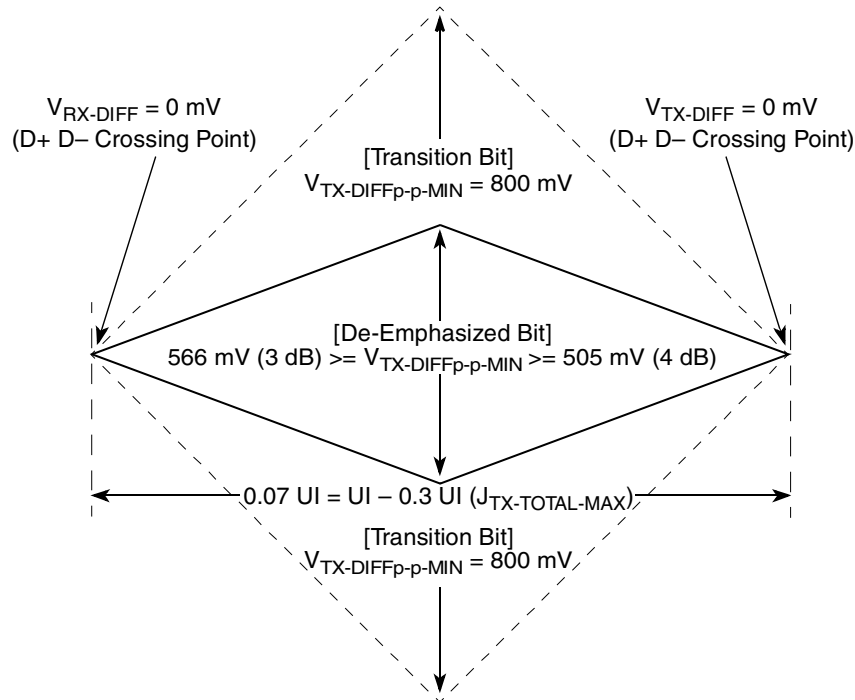
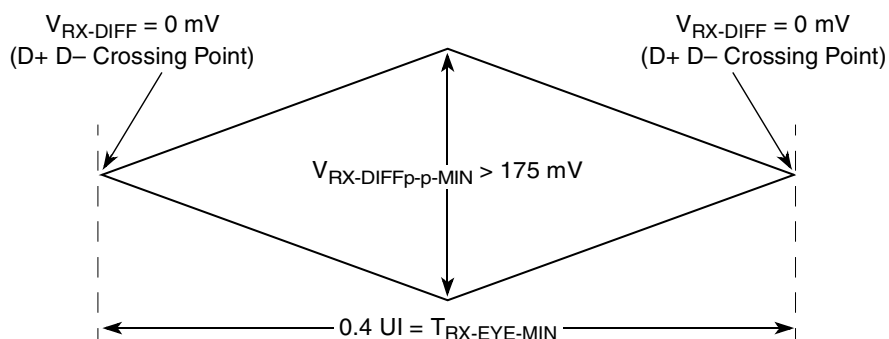
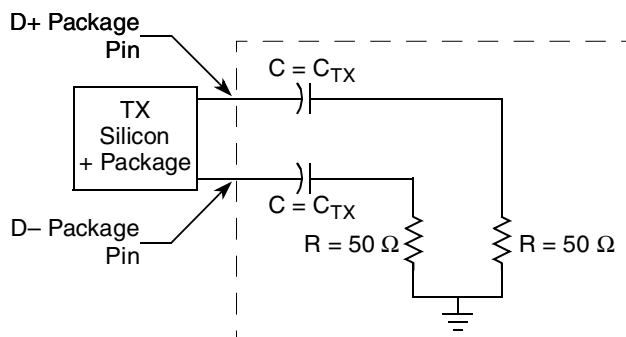

Figure 48. Minimum Transmitter Timing and Voltage Output Compliance Specifications
Figure 49. Minimum Receiver Eye Timing and Voltage Compliance Specification
Figure 50. Compliance Test/Measurement Load
- Specified at the measurement point into a timing and voltage compliance test load as shown in Figure 50 and measured over any 250 consecutive TX UIs. (Also refer to the transmitter compliance eye diagram shown in Figure 48.)
- The transmitter input impedance shall result in a differential return loss greater than or equal to 12 dB and a common mode return loss greater than or equal to 6 dB over a frequency range of 50 MHz to 1.25 GHz. This input impedance requirement applies to all valid input levels. The reference impedance for return loss measurements is 50  $\Omega$  to ground for both the D+ and D– line (that is, as measured by a vector network analyzer with 50- $\Omega$  probes—see Figure 50). Note that the series capacitors  $C_{TX}$  is optional for the return loss measurement.
- Measured between 20%–80% at transmitter package pins into a test load as shown in Figure 50 for both  $V_{TX-D+}$  and  $V_{TX-D-}$ .
The TX eye diagram in Figure 48 is specified using the passive compliance/test measurement load (see Figure 50) in place of any real PCI Express interconnect +RX component.
- Specified at the measurement point and measured over any 250 consecutive UIs. The test load in Figure 50 should be used as the RX device when taking measurements (also refer to the receiver compliance eye diagram shown in Figure 49). If the clocks to the RX and TX are not derived from the same reference clock, the TX UI recovered from 3500 consecutive UI must be used as a reference for the eye diagram.
- The receiver input impedance shall result in a differential return loss greater than or equal to 15 dB with the D+ line biased to 300 mV and the D– line biased to –300 mV and a common mode return loss greater than or equal to 6 dB (no bias required) over a frequency range of 50 MHz to 1.25 GHz. This input impedance requirement applies to all valid input levels. The reference impedance for return loss measurements for is 50  $\Omega$  to ground for both the D+ and D– line (that is, as measured by a vector network analyzer with 50- $\Omega$  probes—see Figure 50). Note: that the series capacitors CTX is optional for the return loss measurement.
The RX eye diagram in Figure 49 is specified using the passive compliance/test measurement load (see Figure 50) in place of any real PCI Express RX component.
Note: In general, the minimum receiver eye diagram measured with the compliance/test measurement load (see Figure 50) will be larger than the minimum receiver eye diagram measured over a range of systems at the input receiver of any real PCI Express component. The degraded eye diagram at the input receiver is due to traces internal to the package as well as silicon parasitic characteristics which cause the real PCI Express component to vary in impedance from the compliance/test measurement load. The input receiver eye diagram is implementation specific and is not specified. RX component designer should provide additional margin to adequately compensate for the degraded minimum receiver eye diagram (shown in Figure 49) expected at the input receiver based on some adequate combination of system simulations and the return loss measured looking into the RX package and silicon. The RX eye diagram must be aligned in time using the jitter median to locate the center of the eye diagram.
The reference impedance for return loss measurements is 50. to ground for both the D+ and D– line (that is, as measured by a vector network analyzer with 50-Ω probes—see Figure 50). Note that the series capacitors, CTX, are optional for the return loss measurement.
The AC timing and voltage parameters must be verified at the measurement point, as specified within 0.2 inches of the package pins, into a test/measurement load shown in Figure 50.